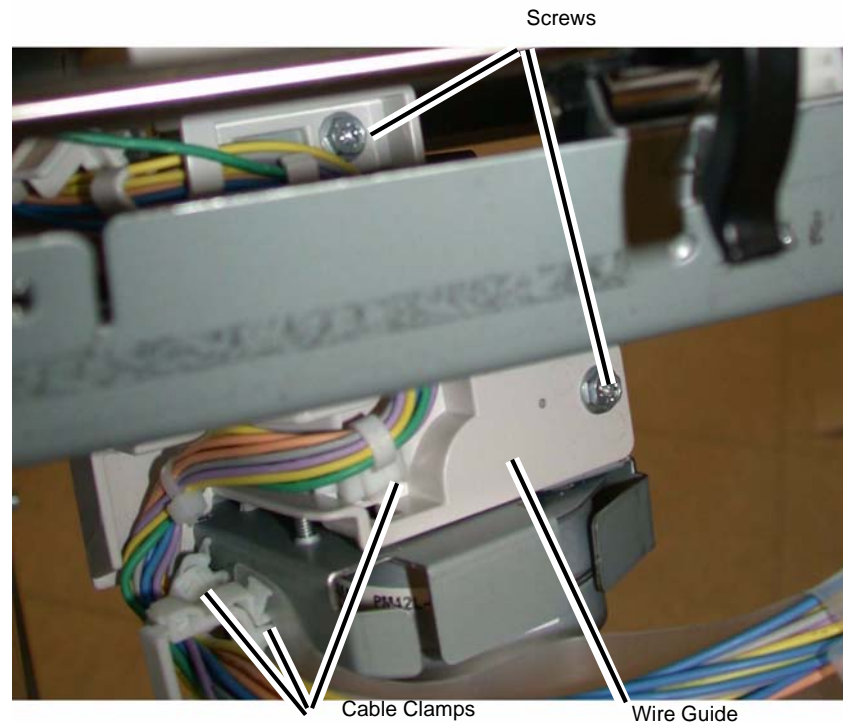

Figure 2 Removing the Wire Guide
4. Remove the Wire Guide (Figure 2).